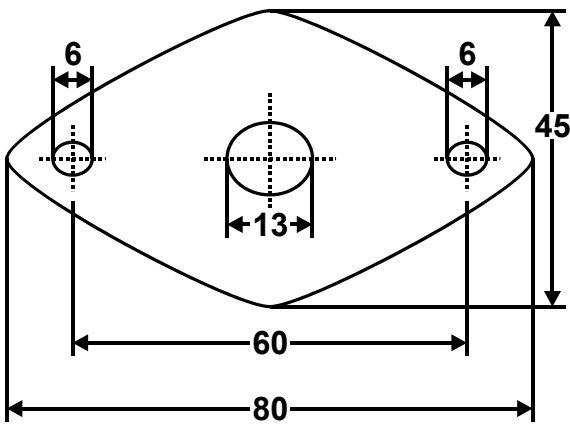

Fig. 1. Flange for fixing the duct (dimensions in mm)
1. Use the template (see Fig. 1) to drill holes and then mount the flange.